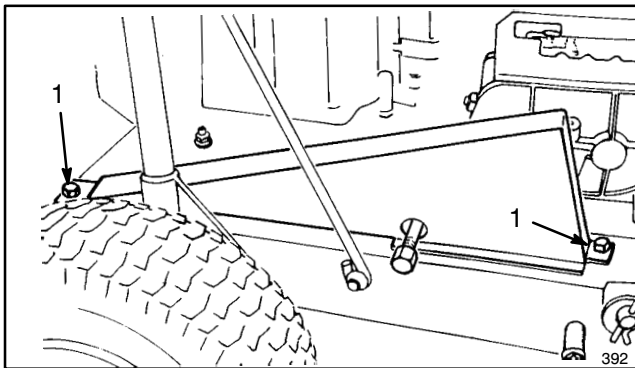

Figure 22
1. Remove two screws securing chain cover to rider chassis and lift off chain cover (Fig. 22).